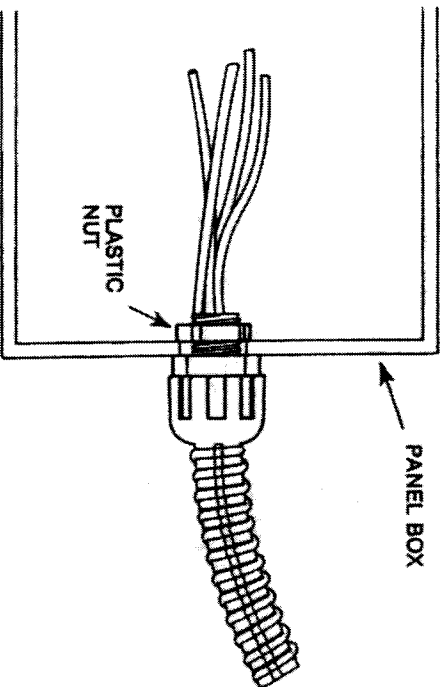

Figure 3
5. Insert threaded end of flexible tubing into a $\frac{1}{2}$ " conduit knock out ($\frac{3}{4}$ " hole) in the panel box and reinstall nut on tubing on the inside of the box. (see Figure 3.)